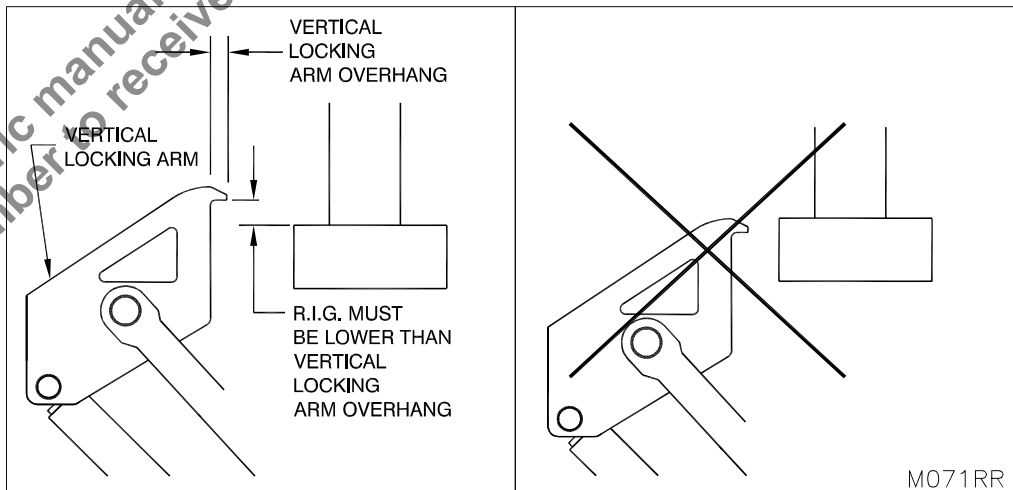

Figure 15: Vertical Locking Arm Position
THE TOP OF THE R.I.G. OF THE TRUCK/TRAILER MUST ALWAYS BE LOWER THAN THE OVERHANG ON THE FRONT FACE OF THE VERTICAL LOCK ARM AND LOCATED BETWEEN THE FRONT FACE OF THE VERTICAL LOCK ARM AND THE RESTRAINT BACK PLATE (See "Figure 15: Vertical Locking Arm Position" on page 17). IF THE TRUCK/TRAILER IS NOT PROPERLY ENGAGED AS PER THESE INSTRUCTIONS, LOWER THE RESTRAINT (See "What to do if the R.I.G CANNOT BE ENGAGED BY the RESTRAINT" on page 19) AND DO NOT LOAD/UNLOAD UNTIL THE TRAILER IS SECURED BY OTHER MEANS. See "Figure 20: Secure Trailer by Other Means" on page 19.
3. Visually confirm that the restraint has properly engaged the rear impact guard (see "Figure 15: Vertical Locking Arm Position" on page 17, before loading or unloading. If unable to properly engage the vehicle with the restraint, lower the restraint to the stored position and use other suitable means must be used to restrain the vehicle, then use manual light mode to illuminate RED outside and GREEN inside lights.